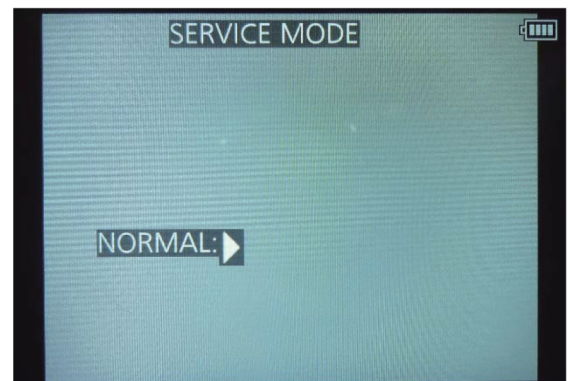

Fig.3-5
3. Do not press any buttons/keys until the default menu (Refer to Fig.3-5) is displayed on the LCD monitor. Otherwise, adjustment data may not be stored properly.